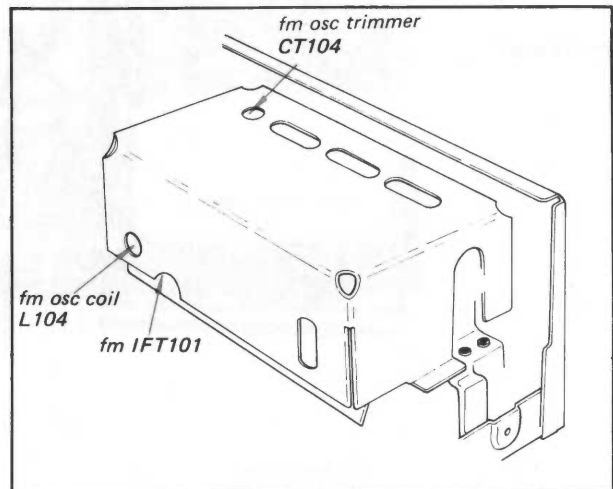

Fig. 3-3. Adjustment parts location
2. Check the dial scale for a calibration accuracy of $\pm 100\text{kHz}$ from the carrier frequency of the station. If the dial-accuracy deviation exceeds this limit, turn the local-oscillator coil L104 (see Fig. 3-3) slightly until optimum dial calibration is obtained.
3. Tune the receiver to the highest-frequency station in your locality. If the dial-calibration error is excessive, adjust local-oscillator trimmer CT104 (see Fig. 3-3) to obtain maximum calibration accuracy.